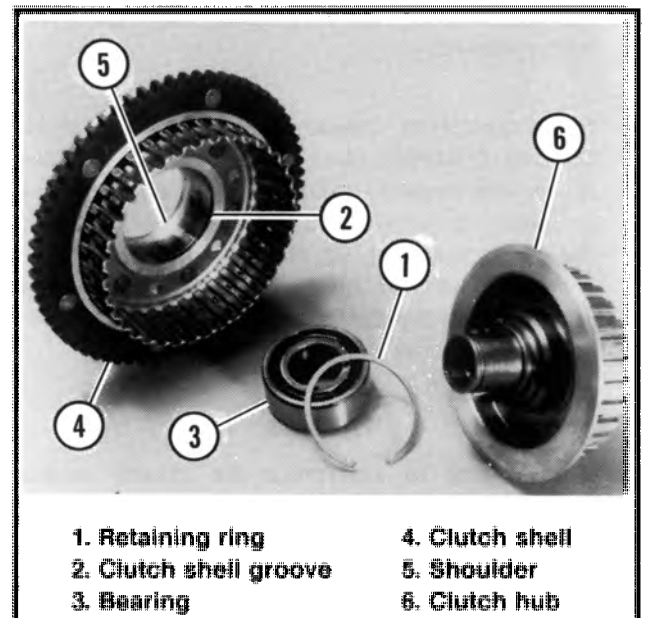

Figure 6-35. Removing Bearing From Clutch Shell
4. See Figure 6-35. Remove retaining ring (1) from clutch shell groove (2). Press bearing (3) out of clutch shell (4) using a suitable press plug and arbor press. The press plug must be placed on the bearing at the primary-chain-sprocket side of the clutch shell because the bearing bore has a shoulder (5).
1. See Figure 6-35. With an arbor press and a press plug that contacts outer bearing race only, press bearing (3) into clutch shell (4) bore until it "bottoms" against shoulder (5). Install retaining ring (1) in groove (2).